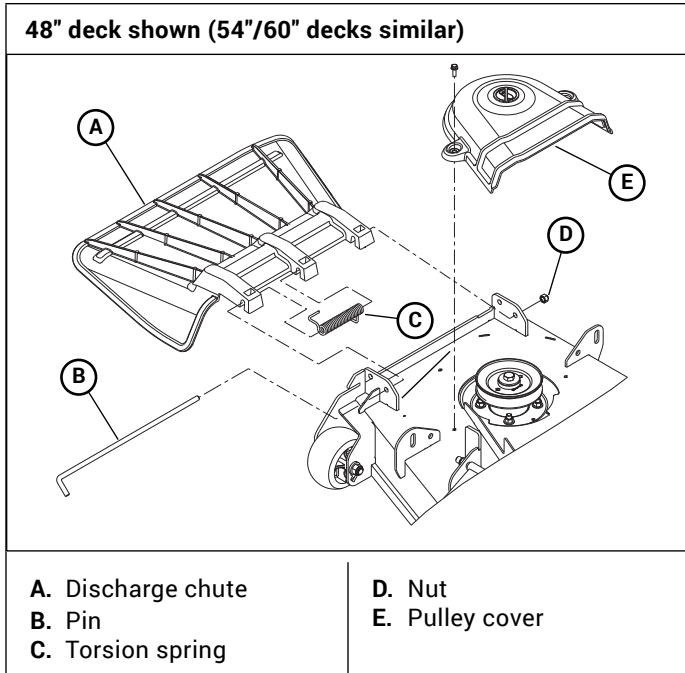

Figure 3-3
12. Remove the right side pulley cover, torsion spring, and discharge chute. Retain these parts as they will be re-installed when the catcher is removed. Figure 3-3